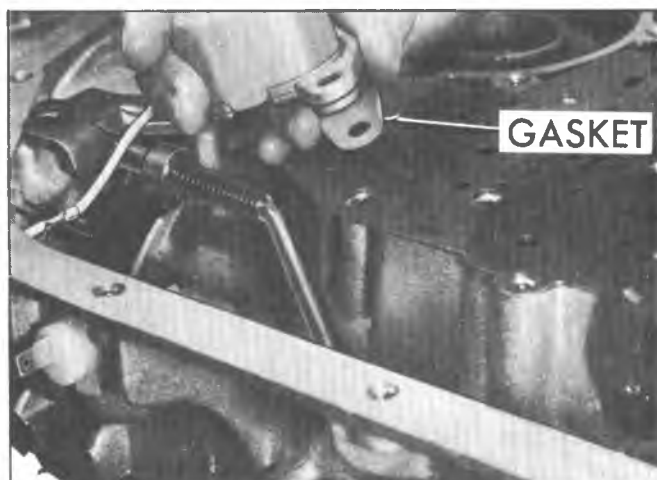

Fig. 144T--Installing Detent Solenoid and Gasket
6. Install detent solenoid assembly with connector facing outer edge of case (fig. 144T). Do not tighten bolts at this time.